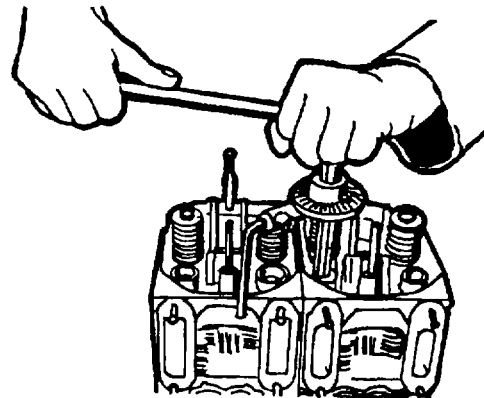

Figure 5-43. Preloading Cylinder Head Bolts
16. Torque bolts to 30 Nm (see tightening procedure, table F-1 of the appendix) and tighten through one stage (45 degrees) with the aid of device No. 003-0500 (figure 5-43).